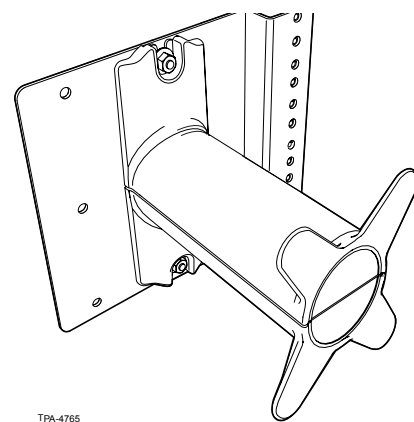

Figure 1
- OCC/CTX mounting bracket with hub (Figure 1)